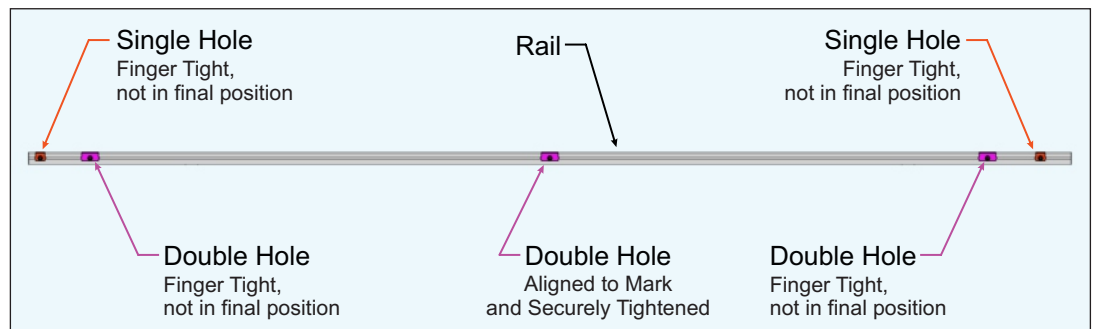

Figure 4-3: Slide Plate Positions
- B. Continue in this manner while installing the remaining Slide Plates. Upon completion, the Rails should look like the one in Figure 4-3 below.